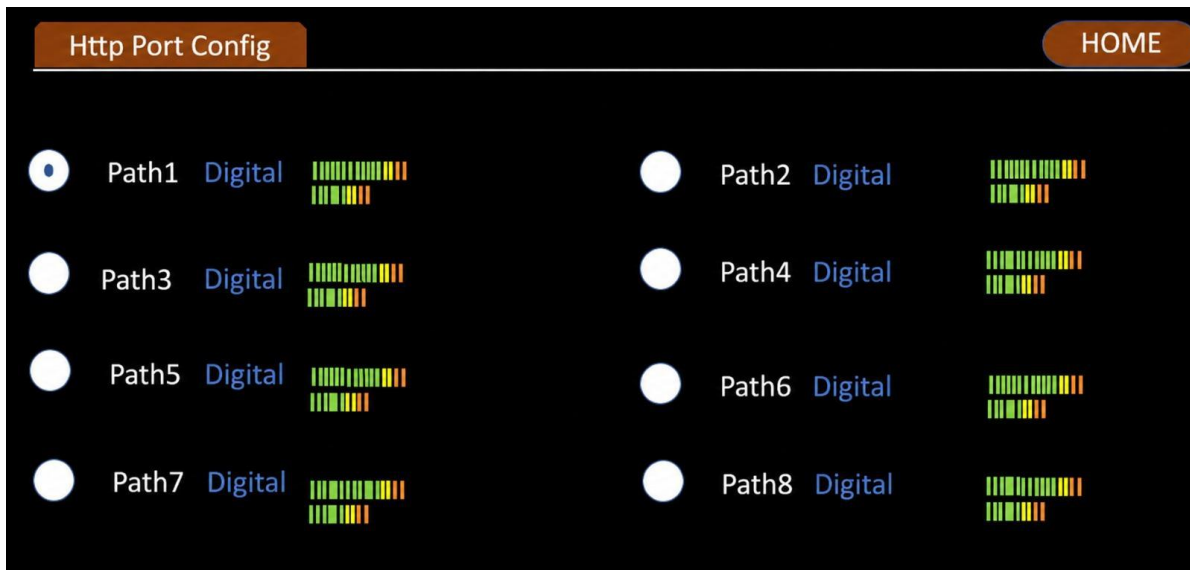

Figure 2.7.1: Selection Screen
- Once fully powered up, the front panel will display the Selection Screen, which should appear similar to Figure 2.7.1 below.
At start-up, the front panel shows the Selection Screen (Figure 2.7.1), where the path (channel) is selected. The Main Screen of the selected path then opens.